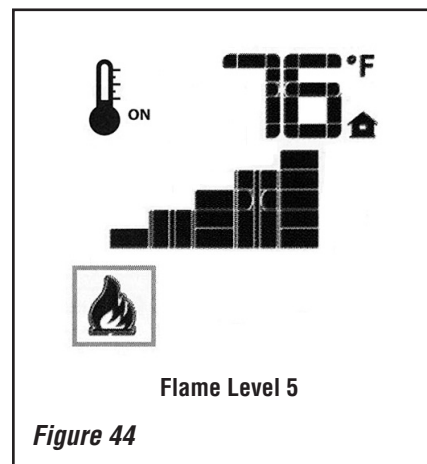

Figure 44
The system has six (6) flame levels. See *Figure 44* for an example. With the system on, and the flame level at the maximum in the appliance, pressing the Down Arrow Key once will reduce the flame height by one step until the flame is turned off.